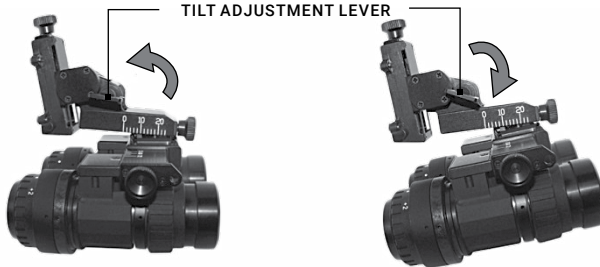

FIGURE 2-8. TILT LEVER
4. Move the tilt lever (see Figure 2-8) up or down to obtain the optimum line-of-sight view. If the upper or lower edges of the image areas are blurred, adjust both the vertical adjustment knob and the tilt lever until the blurred edge is removed and an optimal line of sight is achieved.